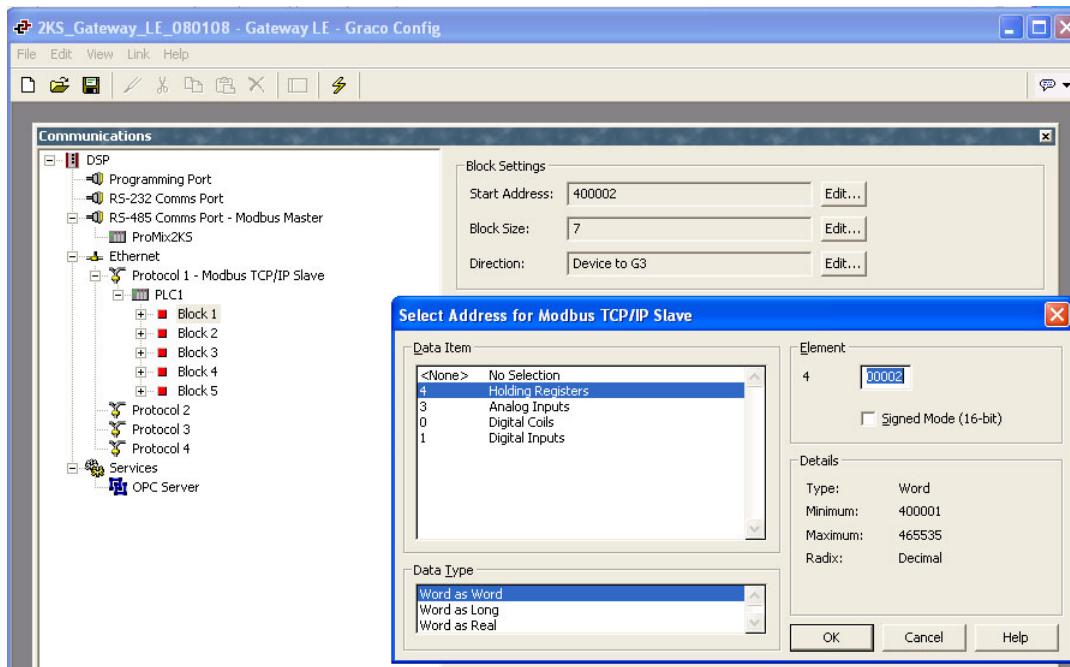

FIG. 22: Mapping Gateway Blocks
1. See FIG. 22. Select the block for data mapping. Click the Edit button next to the Start Address field on the right side of the window. The Select Address window will open.